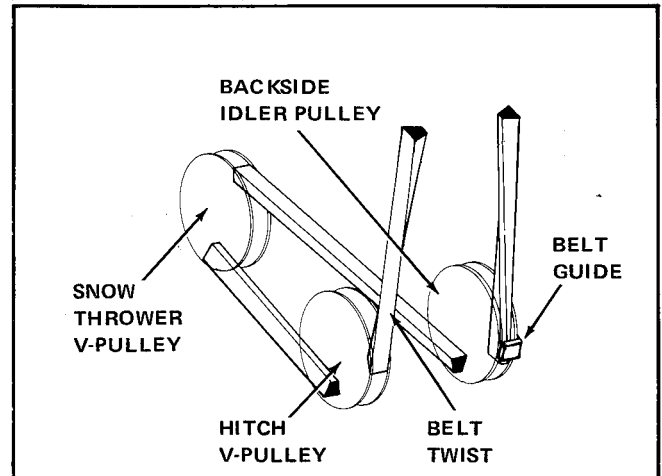

Figure 18. Installing V-Belt
- Thread the V-belt provided onto the snow thrower and hitch pulleys as shown in figure 18. You will need to loosen the locknut holding the belt guide to position the belt in the backside idler pulley. Reposition belt guide